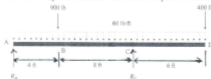

Fig. 2 (b)
- b) Draw shear force and bending moment diagrams for the beam shown in Fig. 2. (b) Indicate the numerical values at all important sections. Determine the point of contraflexure. (18)